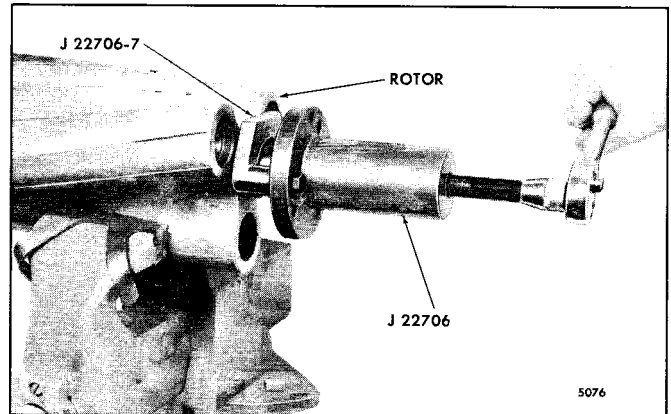

Fig. 9 - Removing Oil Seal Ring Carrier from Blower Rotor Shaft
- c. Refer to Fig. 9 and place the seal ring carrier remover adaptor J 22706-7 over the carrier. Make sure the adaptor is seated in the groove of the carrier.
- e. Place the puller over the end of the rotor shaft and against the adaptor on the oil seal ring carrier. Align the holes in the puller flange with the tapped holes in the adaptor, then secure the puller to the adaptor with two (2) bolts.
- f. Turn the puller screw clockwise and pull the oil seal ring carrier and roller bearing inner race (front end of blower rotors only) from the rotor shaft (Fig. 9).